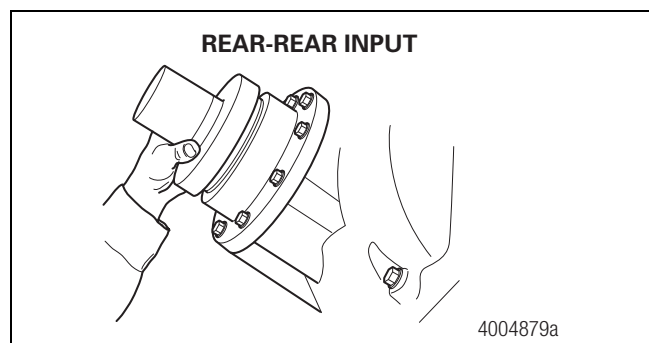

Figure 5.105
8. Install the rear-rear axle input seal. Hold the seal only on the outer diameter. Position the seal into the seal driver and align it with the rear-rear axle input bearing cage. Use a dead-blow hammer and the appropriate driver to install the seal into the bearing cage. Figure 5.105.